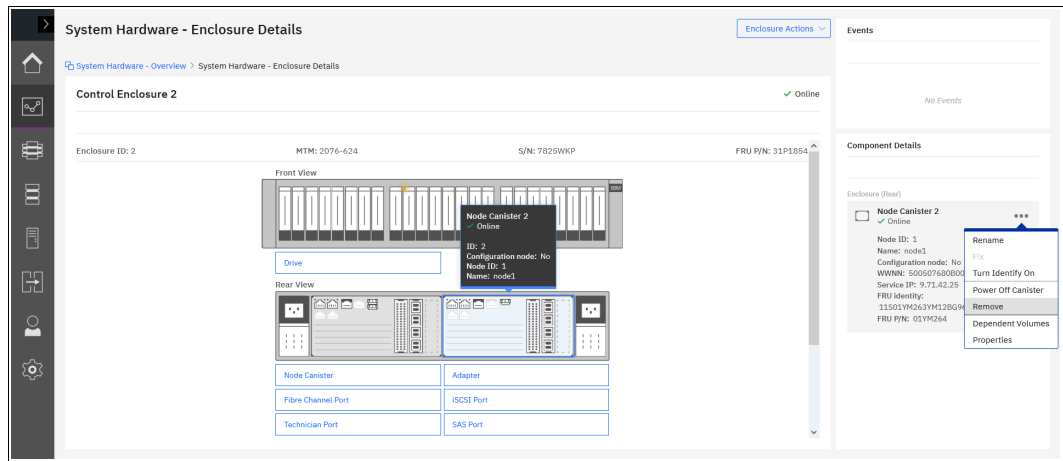

Figure 13-9 Removing a node by using the GUI
1. Select **Monitoring** → **System**, and then select the relevant control enclosure that the node you want to remove is on, which opens the Enclosure Details window. Select the node and either right-click it and click **Remove**, or use the menu in the Components Details to remove it, as shown in Figure 13-9, which opens a confirmation window.
Note: If you want to remove an entire control enclosure from the cluster to reduce the size of the cluster or to decommission it, you can do this task by using the GUI. Go to the Enclosure Overview window, as shown in Figure 13-9 on page 806, but instead of selecting a node, select **Enclosure Actions** and then **Remove**. A confirmation window opens. This action runs the `rmnode` command against both nodes in the control enclosure. For more information about removing an enclosure, see IBM Documentation and search for “Removing a control enclosure and its expansion enclosures”.